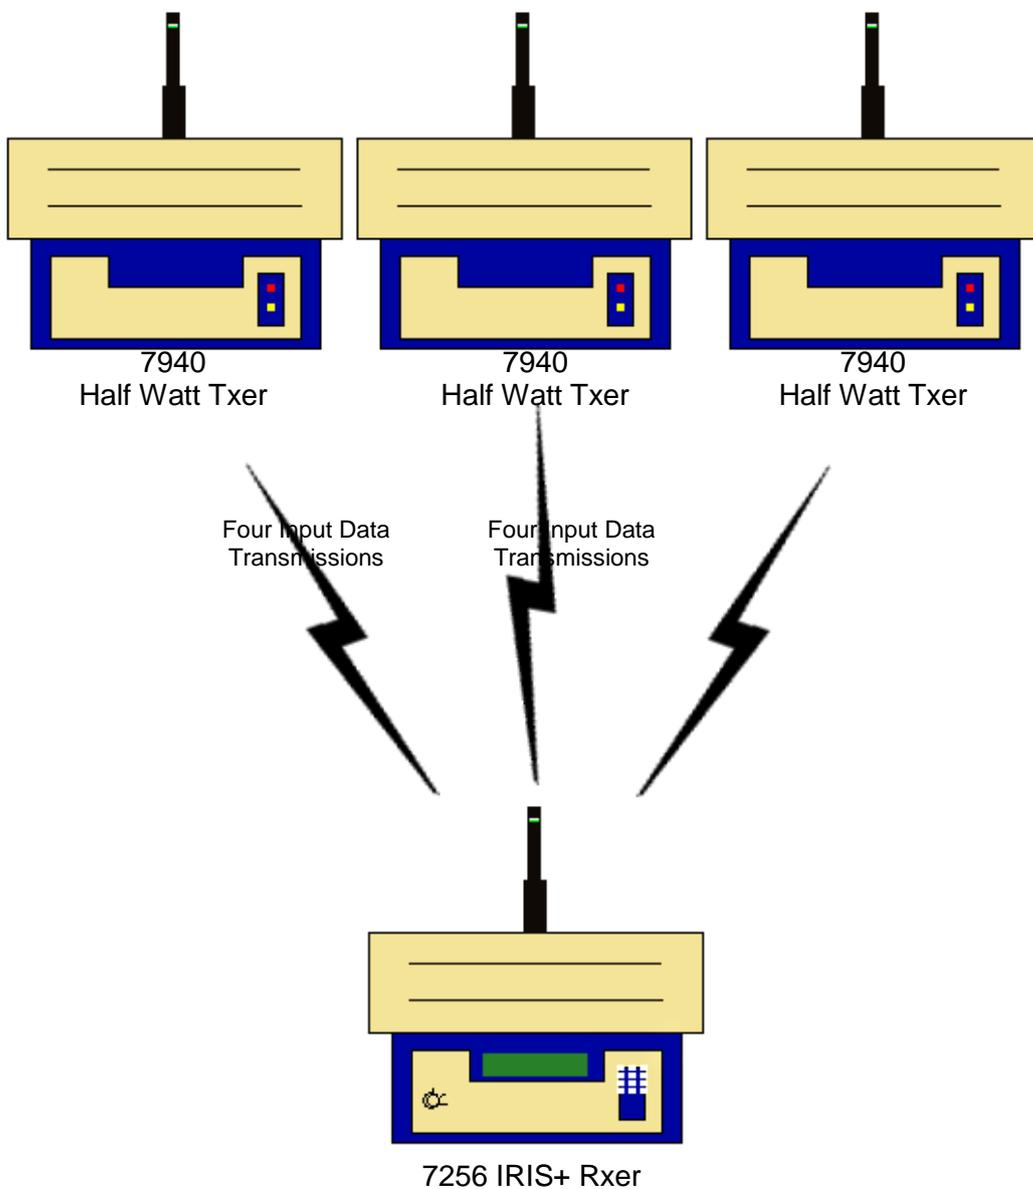
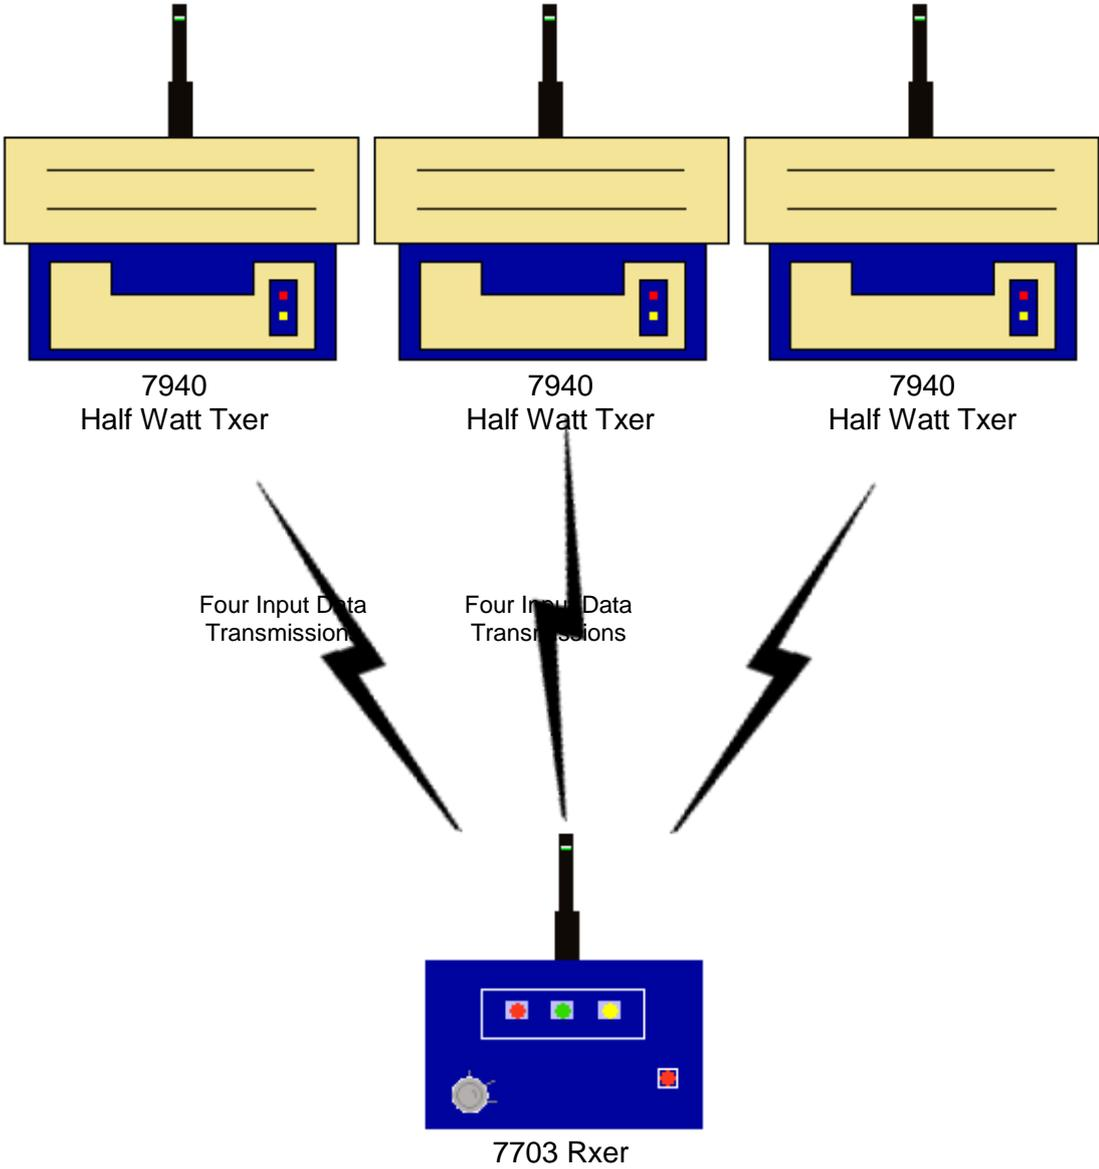

Figure 1
Figure 2
3.1 Remote devices and high gain aerials may also be required for range extension, depending upon the customer’s specification and requirements. Please note both the contact operated transmitter and the IRIS receiver will require an external power supply, whilst the 7703 receiver is available with a built in power supply part number 7703/P. Figure 1 shows a typical IRIS radio system, whilst Figure 2 shows an alternative system using a Single Channel 7703 Receiver:-